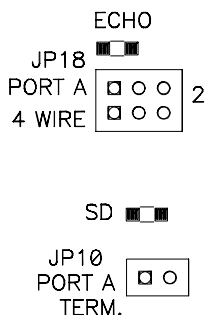

Figure 4. PC Board Options for RS-485
To configure a port for RS-485 two-wire mode, both jumpers must be placed in the two-wire "2" position for the corresponding port Refer to Figure 4 for these jumper locations. The TD (A) and RD (A) lines need to be connected together; also the TD (B) and RD (B) lines need to be connected to each other. Giving you a Data (A) line and a Data (B) line. "A" being "+" and "B" being "-".